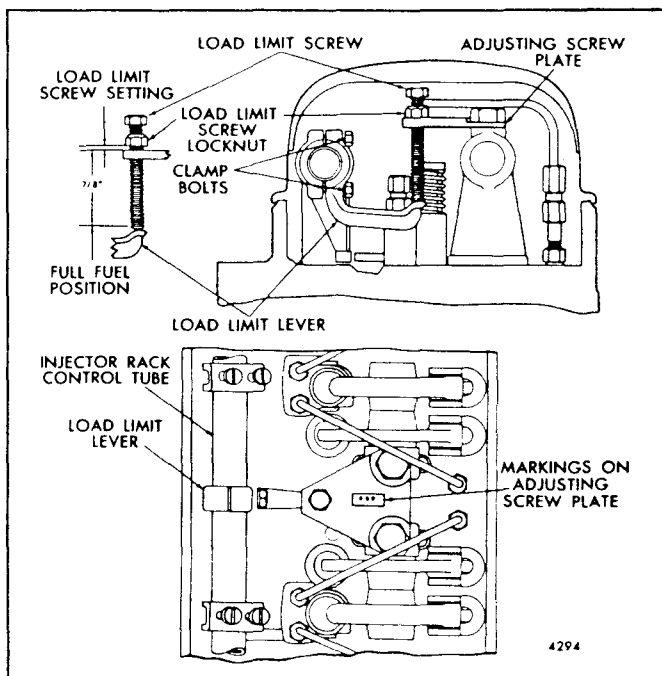

Fig. 1 - Engine Load Limit Device
After the engine tune-up is completed, make sure the load limit device is properly installed as shown in Fig. 1. Make sure the counterbores in the adjusting screw plate are up. The rocker arm shaft bracket bolts which fasten the adjusting screw plate to the brackets are tightened to 50-55 lb-ft torque. Then adjust the load limit device, on each cylinder head, as follows:
3. Adjust the load limit screw lock nut so the bottom of the lock nut is 7/8" from the bottom of the load limit screw (Fig. 1) for the initial setting.